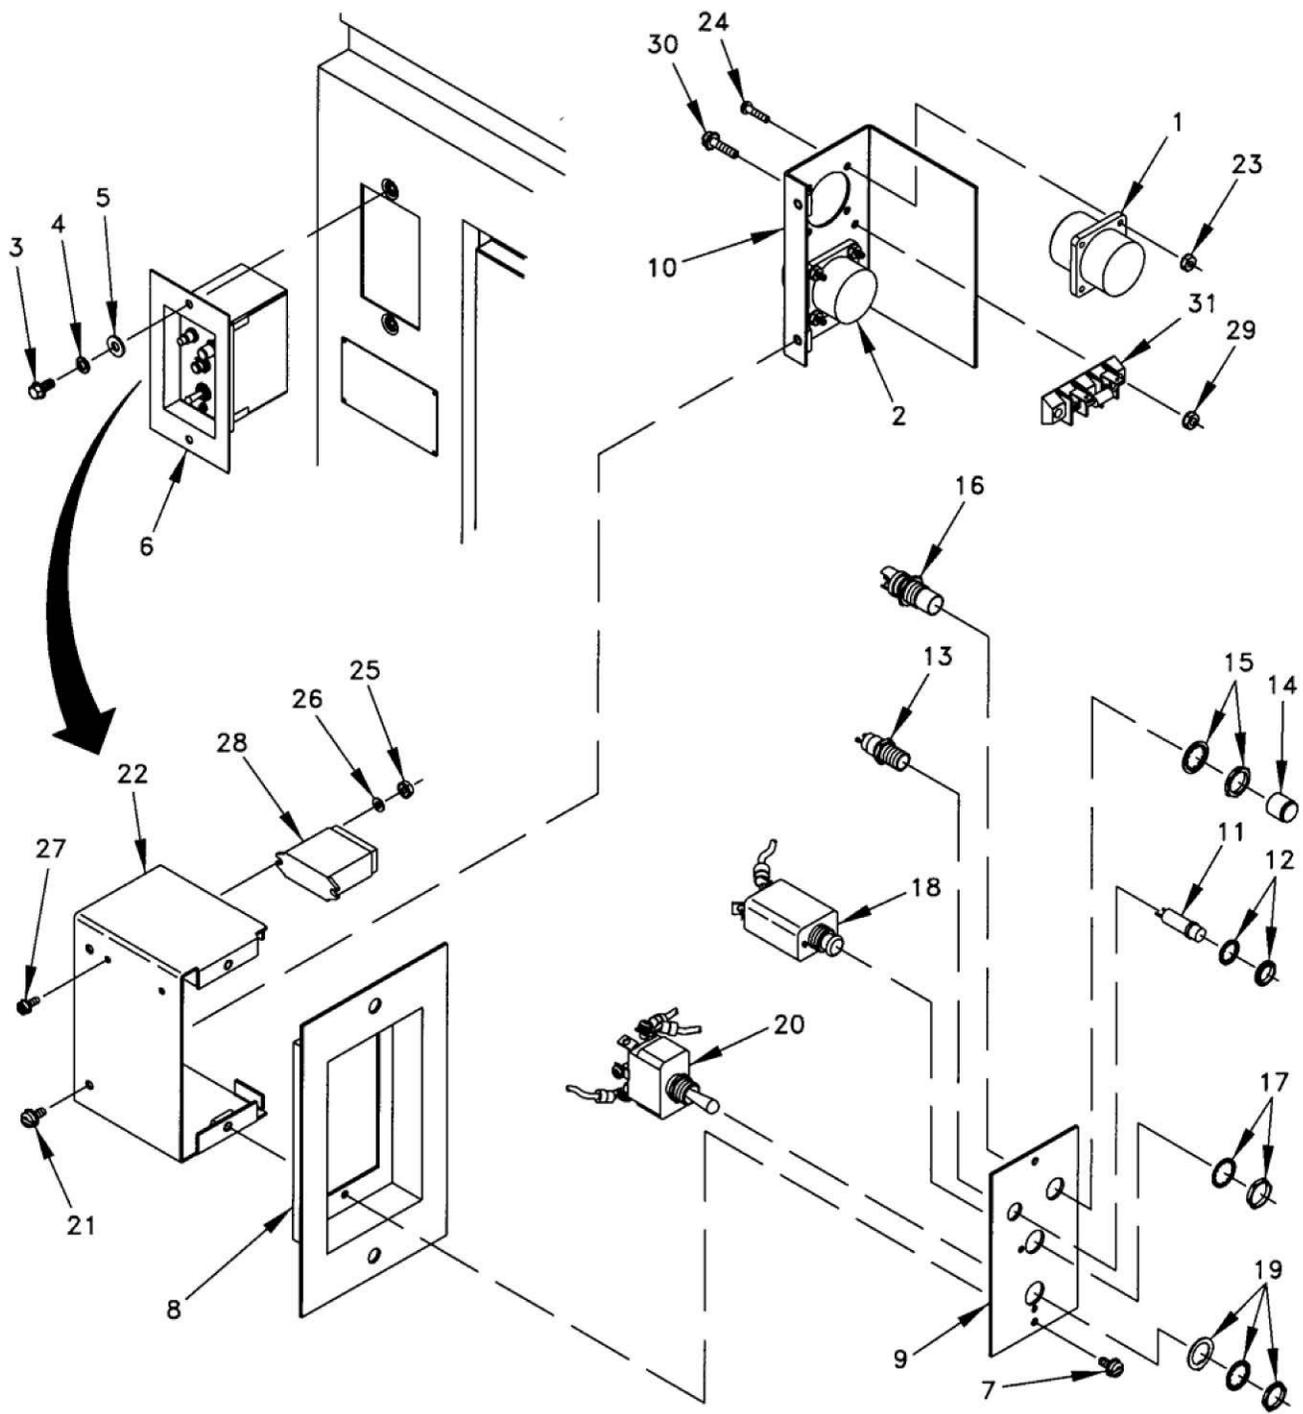

Figure 1. Winterization Heater Control Box Assembly.
3. Disconnect connector P26 from connector J26 (Figure 1, Item 1) and connector P27 from connector J27 (Figure 1, Item 2) of winterization heater control box assembly.
- Remove two screws (Figure 1, Item 3), lock washers (Figure 1, Item 4), and washers (Figure 1, Item 5), and remove winterization heater control box assembly (Figure 1, Item 6) from rear of generator housing.
1. Remove two screws (Figure 1, Item 7), control box mounting bracket (Figure 1, Item 8), and control box faceplate (Figure 1, Item 9) from control box frame (Figure 1, Item 10).
2. Remove collar (Figure 1, Item 11), jam nut and lock washers (Figure 1, Item 12), and LED holder (Figure 1, Item 13) from control box faceplate (Figure 1, Item 9).
3. Remove lens cap (Figure 1, Item 14), jam nut and lock washers (Figure 1, Item 15), and press-test indicator light (Figure 1, Item 16) from control box faceplate (Figure 1, Item 9).
4. Remove jam nut and lock washers (Figure 1, Item 17) and circuit breaker (Figure 1, Item 18) from control box faceplate (Figure 1, Item 9).
5. Remove jam nut and lock washers (Figure 1, Item 19) and toggle switch (Figure 1, Item 20) from control box faceplate (Figure 1, Item 9).
6. Remove two screws (Figure 1, Item 21) and control box cover (Figure 1, Item 22) from control box frame (Figure 1, Item 10).
7. Remove eight nuts (Figure 1, Item 23), screws (Figure 1, Item 24), connector J26 (Figure 1, Item 1) and J27 (Figure 1, Item 2) from control box frame (Figure 1, Item 10).
8. Remove two nuts (Figure 1, Item 25), washers (Figure 1, Item 26), screws (Figure 1, Item 27), and relay (Figure 1, Item 28) from control box frame (Figure 1, Item 10).
9. Remove two nuts (Figure 1, Item 29), screws (Figure 1, Item 30), and terminal block and rectifier assembly (Figure 1, Item 31) from control box frame (Figure 1, Item 10).
1. Install terminal block and rectifier assembly (Figure 1, Item 31) on control box frame (Figure 1, Item 10) with two screws (Figure 1, Item 30) and nuts (Figure 1, Item 29).
2. Install relay (Figure 1, Item 28) on control box frame (Figure 1, Item 10) with two screws (Figure 1, Item 27), washers (Figure 1, Item 26) and nuts (Figure 1, Item 25).
3. Install connectors J27 and J26 (Figure 1, Item 2) and (Figure 1, Item 1) on control box frame (Figure 1, Item 9) with eight screws (Figure 1, Item 24) and nuts (Figure 1, Item 23).